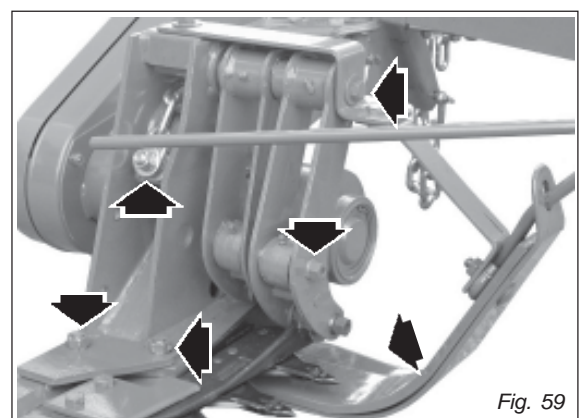

Fig. 59
- Check the tightness of the connecting rod bolts regularly (Fig. 59).